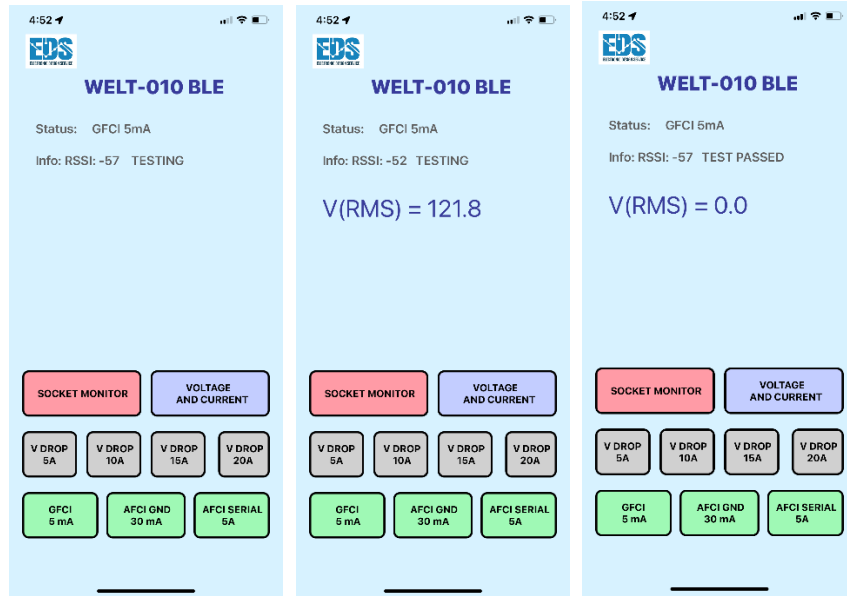
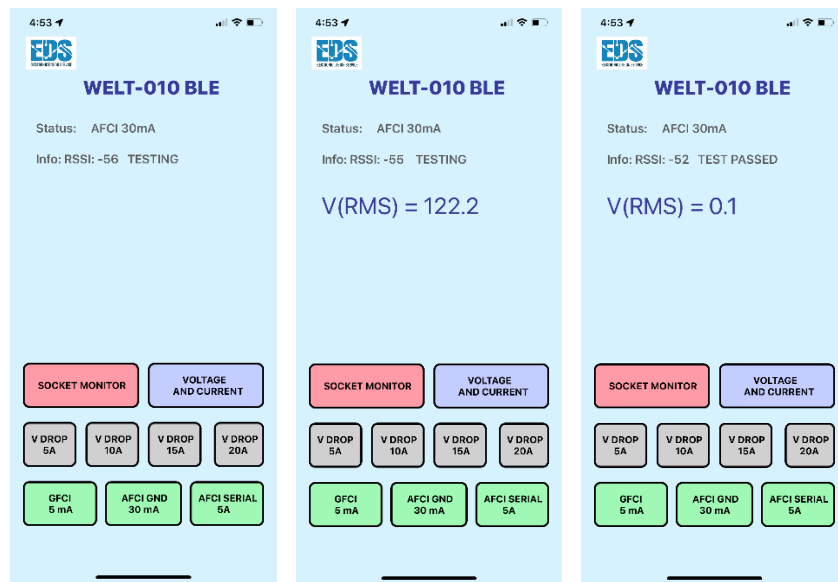

Figure 19 GFCI Test screenshots
Figure 20 AFCI 30mA Test screenshots
*GFCI 5mA, AFCI 30mA and AFCI Tests Operation (see Figure 19, Figure 20 and ):*
Refer to Figure 19.